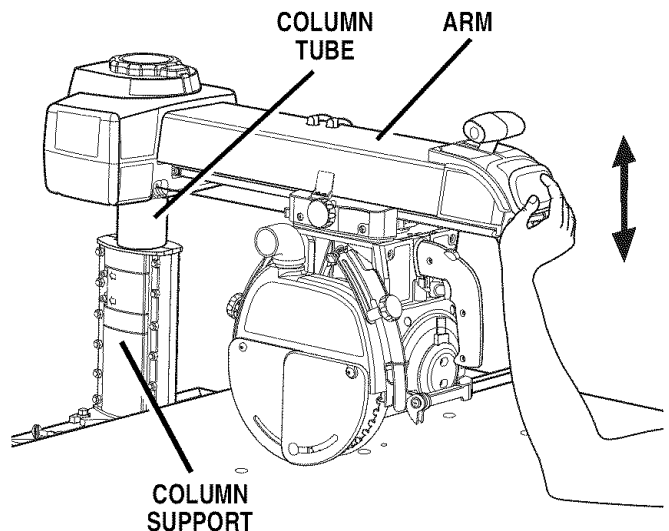

Fig. 19A
See Figures 19A - 19D.
- *Elevation check:* To check the elevation movement, place your hand under the front of the radial arm. Press upward on the radial arm. There should be no play between the column tube and the column support. The whole assembly should move as one. See Figure 19A.